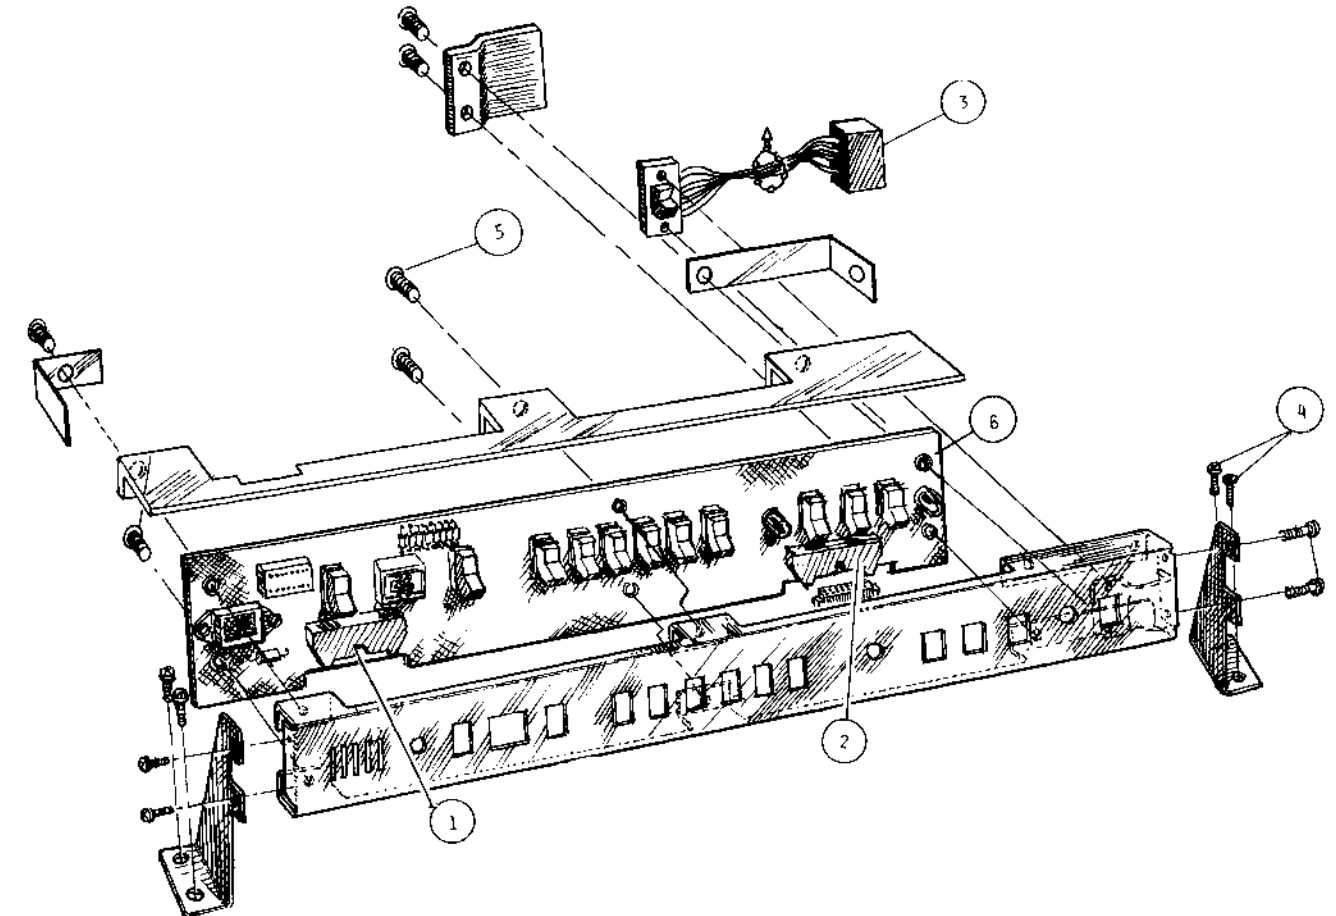

Figure 4-10 Operator Control Panel
4.5.1 Disassembly (Figure 4-10)
- e. Remove control panel assembly by removing four screws (Item 4) that secure brackets to base (refer to Figure 4-10).